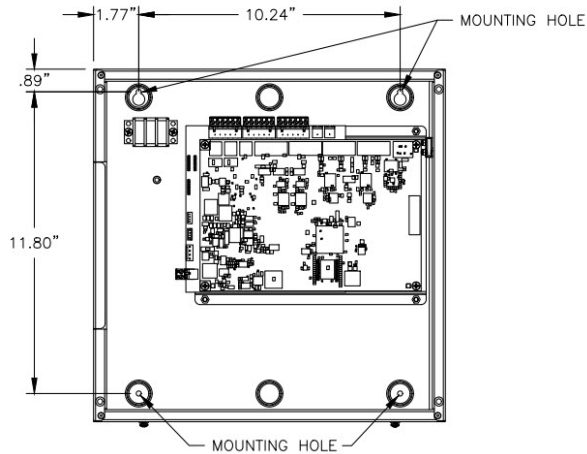

Figure 13. NX16US enclosure and mounting hole dimensions
6. Keyhole mounting holes are provided for wall mounting as shown in Figure 13. Secure the unit to the wall using the appropriate mounting hardware required for the wall's construction.